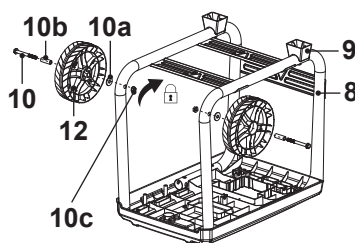

Fig. 3
2. Align the holes on the wheel (12) and the frame (8). Insert the bolt (wheel axle) (10)/ bushing (10b) through the holes and then tighten the nut (10c) hand tight. (Fig. 3).
3. Lock the bolt (wheel axle)(10) with a spanner and tighten the nut(10c) clockwise with another spanner gripping the nut.
5. Place the product back on its wheels(12) and feet (9).